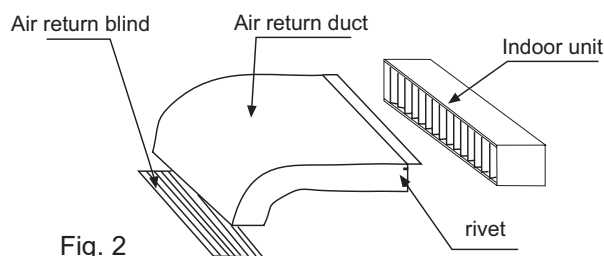

Fig. 2
- Use rivet to connect the air return duct on the air return inlet of the indoor unit, then connect the other end with the air return blind. As Fig. 2 shown.